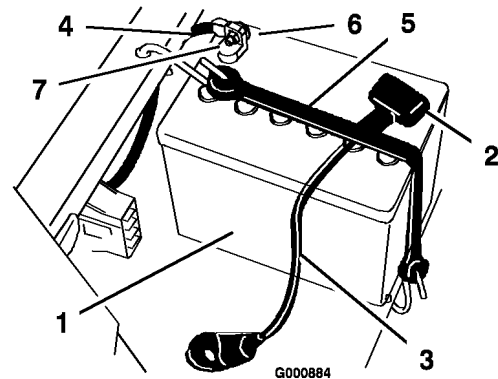

Figure 34
4. Disconnect the negative (black) ground cable from the battery post (Figure 34).
5. Slide the rubber cover up the positive (red) cable. Disconnect the positive (red) cable from the battery post (Figure 34).
6. Remove the battery hold-down (Figure 34) and lift the battery from the battery tray.
1. Position the battery in the tray with the terminal posts away from the control panel (Figure 34).
4. Secure the cables with 2 bolts (1/4 x 3/4 inch), washers (1/4 inch), and nuts (1/4 inch) (Figure 34).
6. Secure the battery with the hold-down (Figure 34).